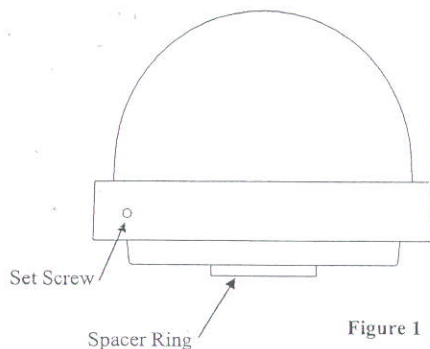

Figure 1
- This luminaire has been provided with an aluminum spacer ring attached (See Fig. 1). That ring must be used when ceiling mounting, but may be removed for wall mounting if desired.
1. Loosen the set screw in the side of the housing, and remove the lens frame. See Fig. 1.